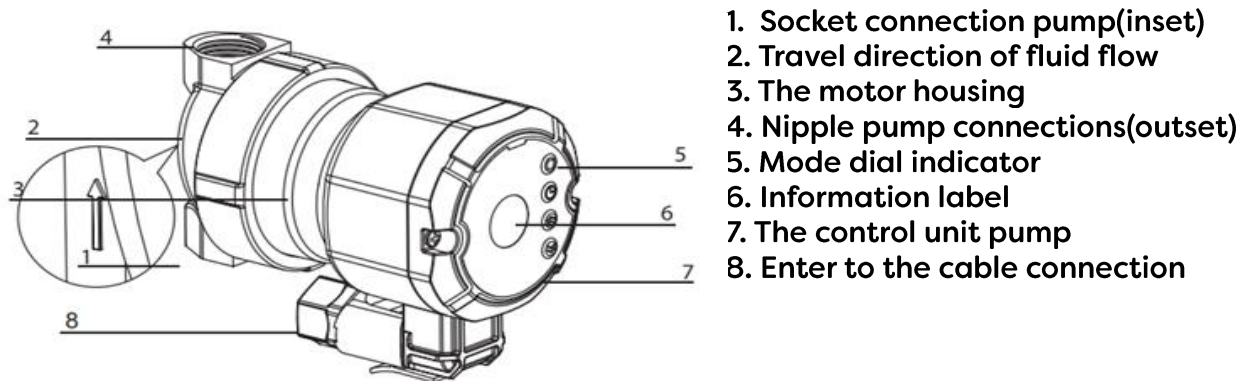

Fig. 1 Description of the components
**NOTE** Once the pump casing is in the correct position, the brass ring/bolt (Fig. 1 item 2) must be carefully tightened, otherwise the pump gland seal may leak, resulting in flooding of the motor electrical connections with consequent failure. The above can be carried out with the pump not yet installed in the pipeline or after the electrical and water supply has been disconnected and water supply when the pump is already installed.